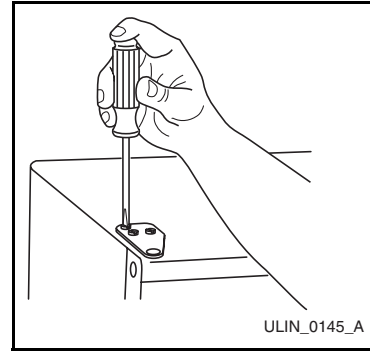

Figure 28
- Fasten upper hinge to unit (three screws) (**Figure 28**). Partially tighten screws until door is aligned.